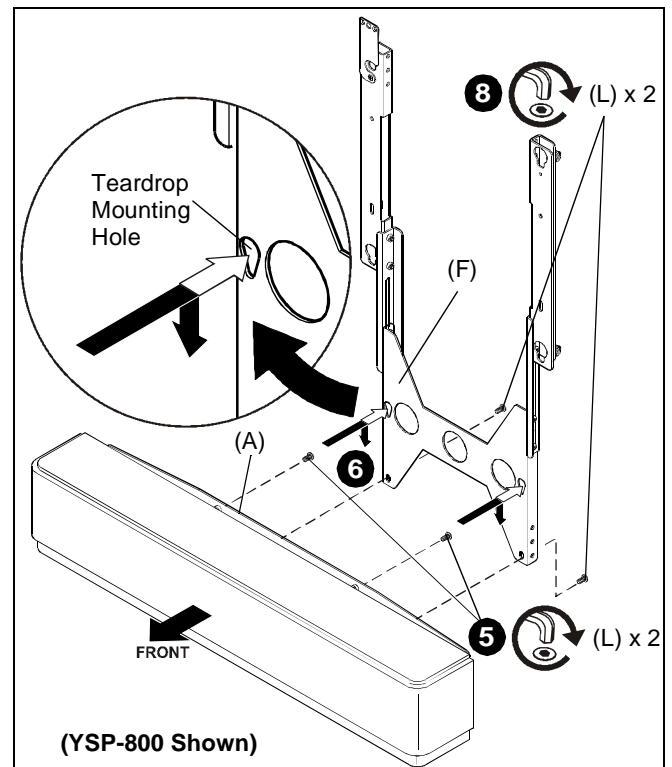

Figure 7
5. Partially install two 1/4-20 x 1/2" button head cap screws (L) into top back of speaker mount adapter (A). (See Figure 7)
6. Slide installed screws (L) on back of speaker mount adapter (A) through teardrop mounting holes in center speaker bracket (F). Lower bracket until screws are seated in lower area of teardrop mounting holes. (See Figure 7)
7. Tighten two upper button head cap screws (L).
8. Install two 1/4-20 x 1/2" button head cap screws (L) through center speaker bracket (F) and into lower mounting holes in speaker mount adapter (A). (See Figure 7)